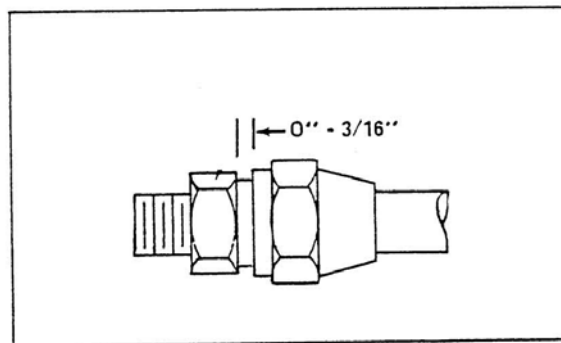

FIG. 6
4. Run nut onto fitting body and tighten nut to "0" – 3/16" gap (see Fig. 6). Use wrench on body nut hex and hold hose when tightening, being careful not to twist, bend, kink or collapse hose.